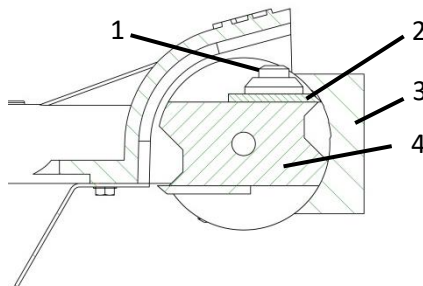

Fig. 9 Knife adjustment
- > Loosen the knife screw (1 - Fig.9).
- > Push the knife (2 – Fig.9) all the way back.
- > Place the knife gauge (3 – Fig.9) on the cylinder (4 – Fig.9) so that it rests on the two bearing surfaces of the cylinder at the top and bottom.